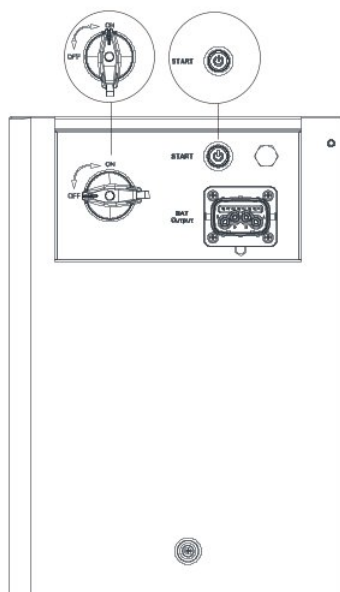

Figure 5.2 Power on the APX M-S3 system
Step 1: Turn on the DC switch of the Master Module(Figure 5.2).
Step 4: Press and hold the "START" button on the Master Module for more than 5 seconds (Figure 5.2).